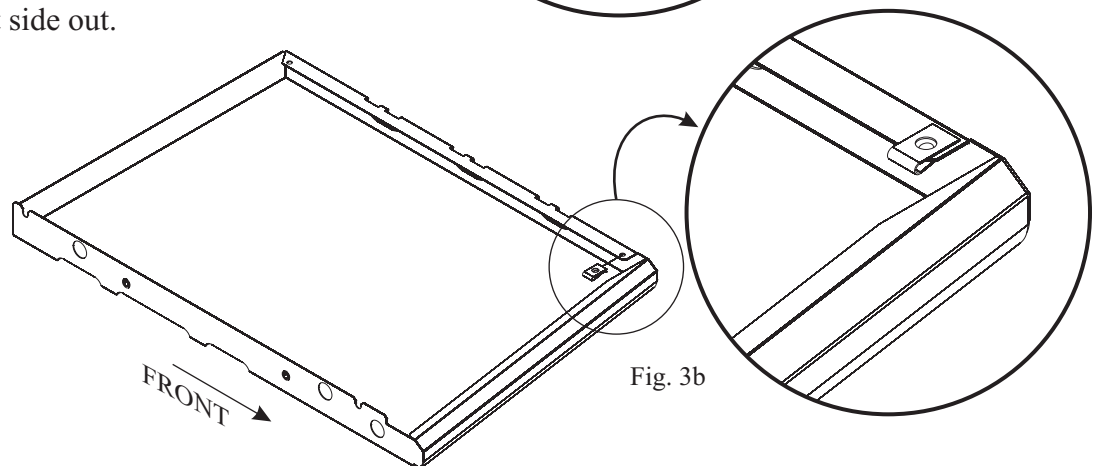

Fig. 3b
Install the one (1) U-Clip fastener to each of the Side Shelves as shown in Fig. 3b. One (1) U-Clip should be placed on the under side of each shelf, at the front outside corner, with the flat side out.